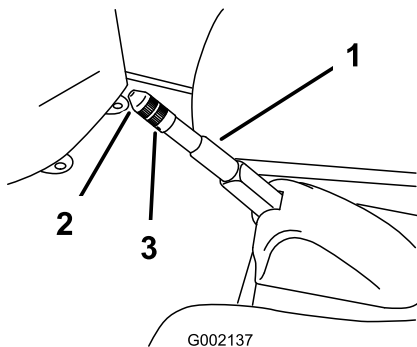

Figure 54
2. Loosen the set screw securing the knob to the parking-brake lever (Figure 54).